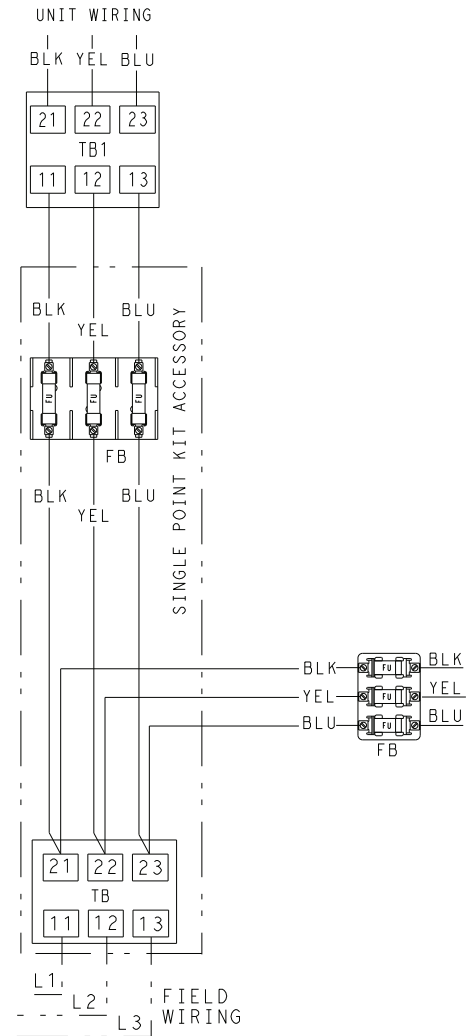

Fig. 54 — Wiring Diagram for Single Point Kit Accessory When Required
7. To be used with Standard SCCR (5ka) Units Only. Refer to Fig. 54 for wiring single point kit accessory when required. Using three 1/4-20 nuts, connect power wires to the load side of terminal block.